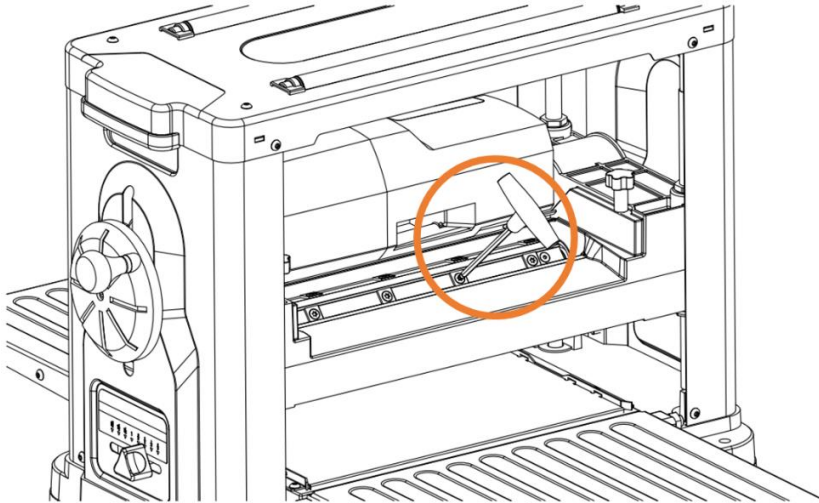

FIG 7
3. Rotate the cutterhead to a position where a cutter tip is visible. SEE FIG. 7. next page.